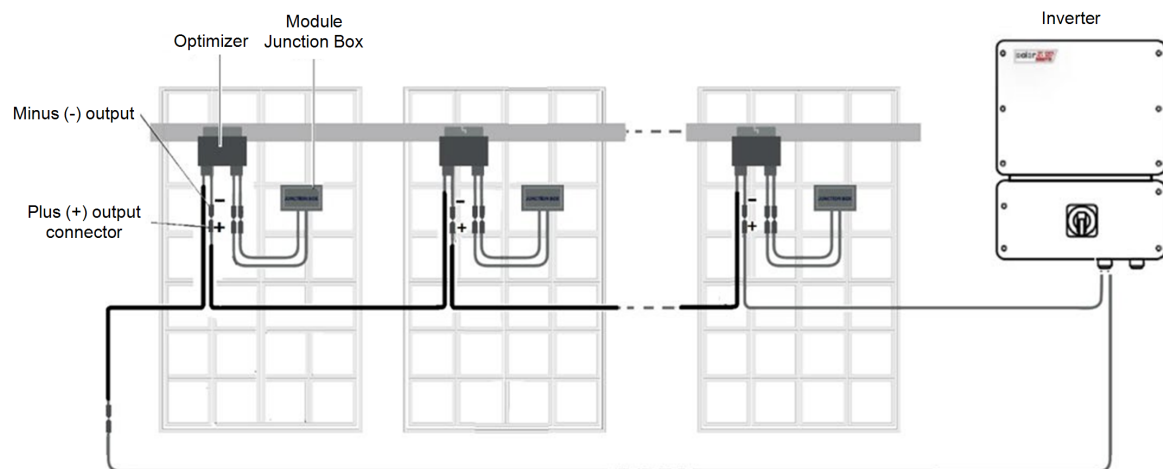

Figure 3: S-Series Input and Output Wire Connection Schematic.
*Figure 3* illustrates the input wiring connection pattern between S-Series Power Optimizers and a PV module, and output wiring connections between Power Optimizers in a string. Refer to the label on the product to identify the plus and minus input and output connectors.